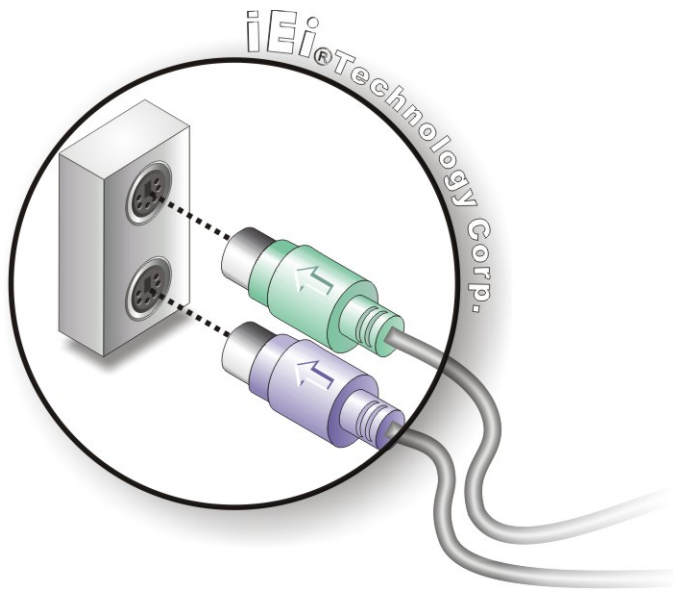

Figure 5-17: PS/2 Keyboard/Mouse Connector
Step 2: **Insert the keyboard/mouse connector.** Insert a PS/2 keyboard or mouse connector into the appropriate PS/2 connector on the external peripheral interface connector. See **Figure 5-17**.